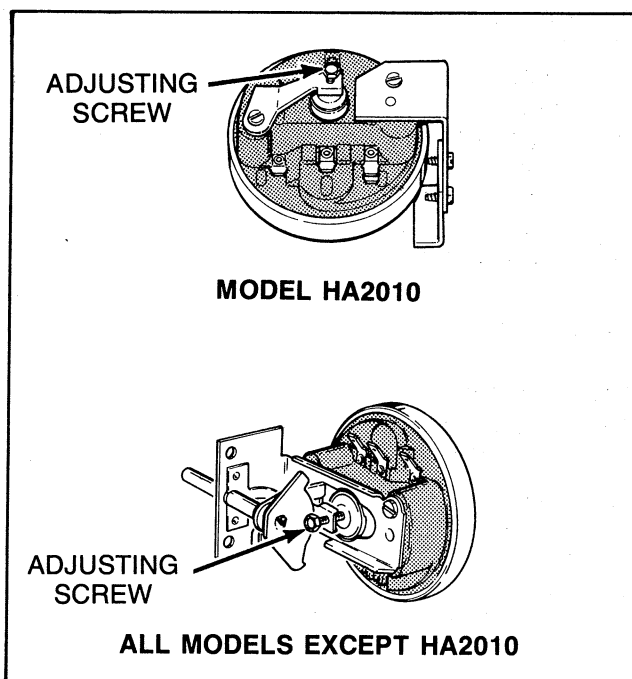

Figure 39
35. PRESSURE SWITCH (Refer to Figure 39)